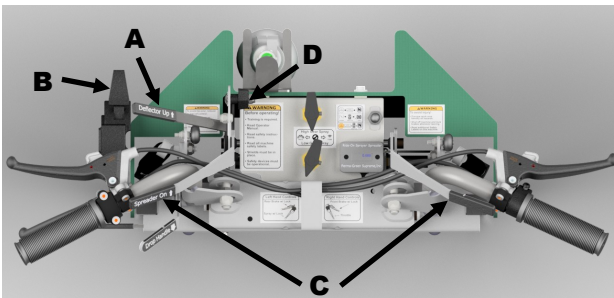

FIGURE 10
This machine uses a familiar 3-hole cyclone type spreader mechanism, and comes factory set to broadcast spread a pattern width of 14 ± 1 FEET (4.3 ± 0.3 meters). Using a 7 ± 1 FOOT (2.1 ± 0.3 meters) overlap travel pattern provides an even distribution of most products. **NOTE:** Actual spread pattern width and overlap may vary based on your calibration (refer to Spreader Calibration in this section). Referring to **FIGURE 10:** A Deflector Lever (A) remotely controls a Deflector to cut off the right side of the spread pattern for trimming. A Third-hole Lever (B) remotely controls a Third-hole Adjustment Plate that should be used with the Deflector to compensate for the amount of product required while trimming and to balance the spreader pattern for even distribution. An opening and closing Hopper Lever (C) remotely controls the delivery of granular material from the Hopper. A Rate Adjustment Knob (D) adjusts the amount of product delivered when the hopper is open. The sprayer can be operated at the same time the spreader is in use, and the seven-foot overlap pattern is also effective for the sprayer.
- Once your Pre-Calibrated **LOW GEAR** setting is adjusted, reposition the stop bolt (FIGURE 10.2-H) against the Rate Adjuster Knob (Fig. 10-D) to lock in your Pre-set location. A 5/32" Allen wrench is required.
- To raise the Deflector (not shown) out of the path of the granular spread pattern, move the Deflector Lever (Fig. 10-A) forward.
- To open the Third-hole Adjustment Plate (not shown), push the Third-hole Lever (Fig. 10-B) forward.